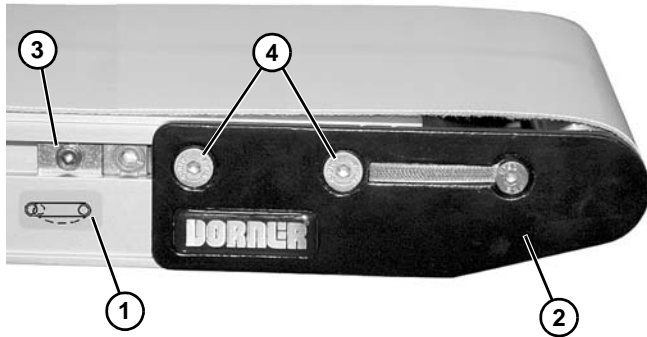

Figure 40
5. On tension end of the conveyor, identified with  a label (**Figure 40, item 1**), push in head plate assembly (**Figure 40, item 2**):
- a. On both sides of conveyor, loosen and move cam tracking assemblies (**Figure 40, item 3**) (if equipped) away from head plates.
- b. Loosen fastening screws (**Figure 40, item 4**) and push head plate assembly inward.